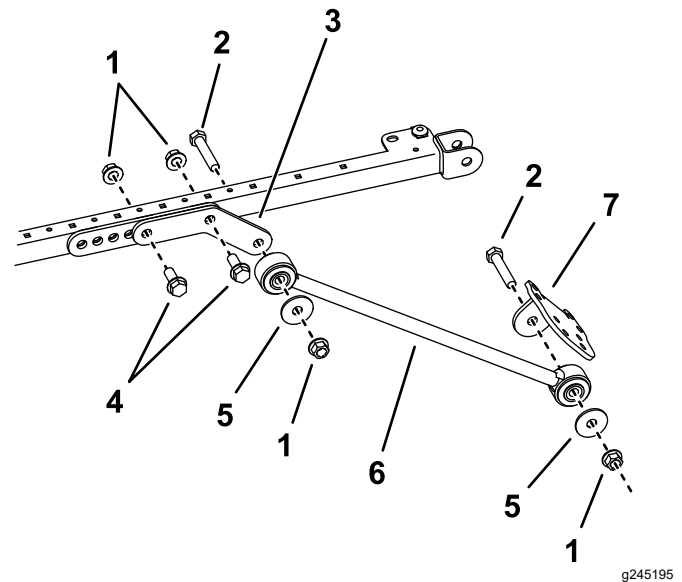

Figure 40
- On each side of the sunshade frame, loosely mount an extension link to the rear and center holes of the mount bracket with 2 bolts (1/2 x 1-1/2 inches), and 2 flange nuts (1/2 inch) as shown in Figure 40.
- Attach a brace to the outside of each extension link with a bolt (1/2 x 2-1/2 inches), washer (1/2 inch), and flange nut (1/2 inch) as shown in Figure 40.
- Loosely install a brace bracket to each brace with a bolt (1/2 x 2-1/2 inches), washer (1/2 inch), and flange nut (1/2 inch) as shown in Figure 40.